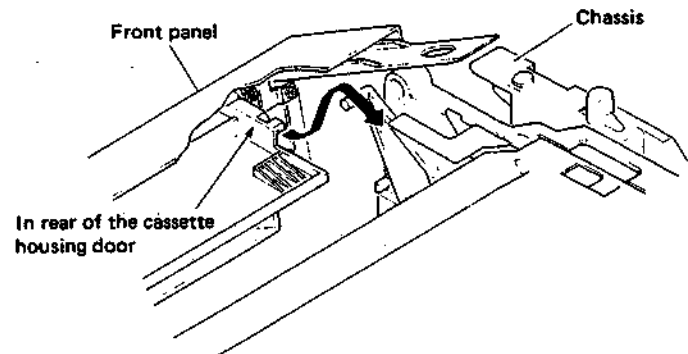

Fig. 1-1-8
4. Install the front panel as shown in Fig. 1-1-8 and re-engage the tabs. Supply power and use a spare cassette to check for normal loading and eject operations.